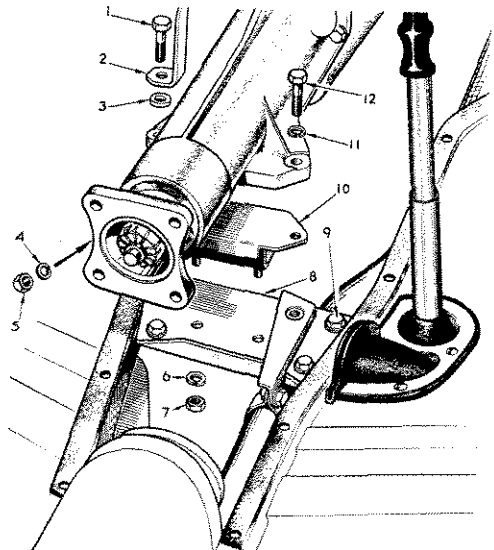

Fig. 5. Gearbox rear mounting
Referring to Fig. 5, release the exhaust pipe bracket (9) and detach the rear mounting (10) from the gearbox and crossmember (8). Raise the engine and gearbox and remove the crossmember by sliding it forwards.